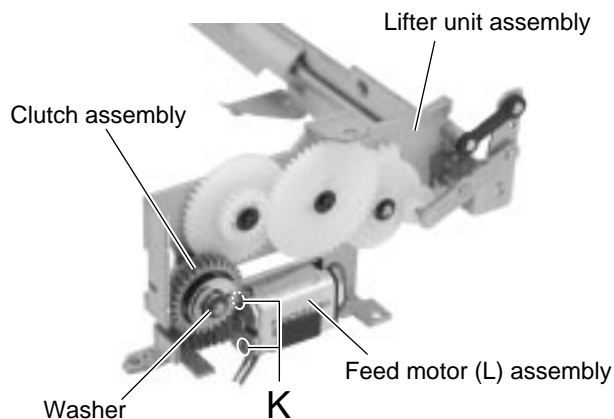

Fig.11
■ Removing the feed motor (L) (See Fig.11)